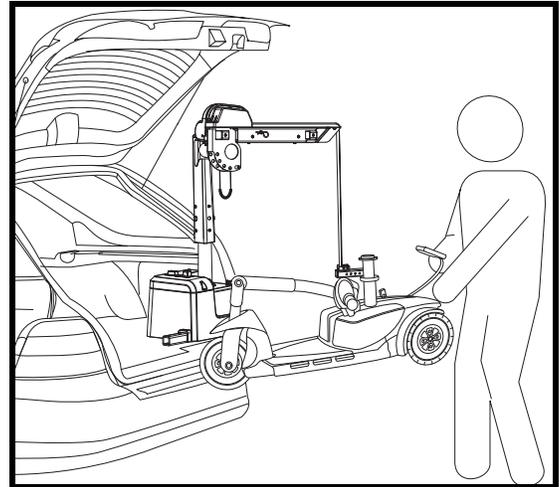

Figure 8. Lifting the Mobility Product
9. Once the mobility product is raised high enough to fit into the vehicle, stop the lift. **See figure 8.**